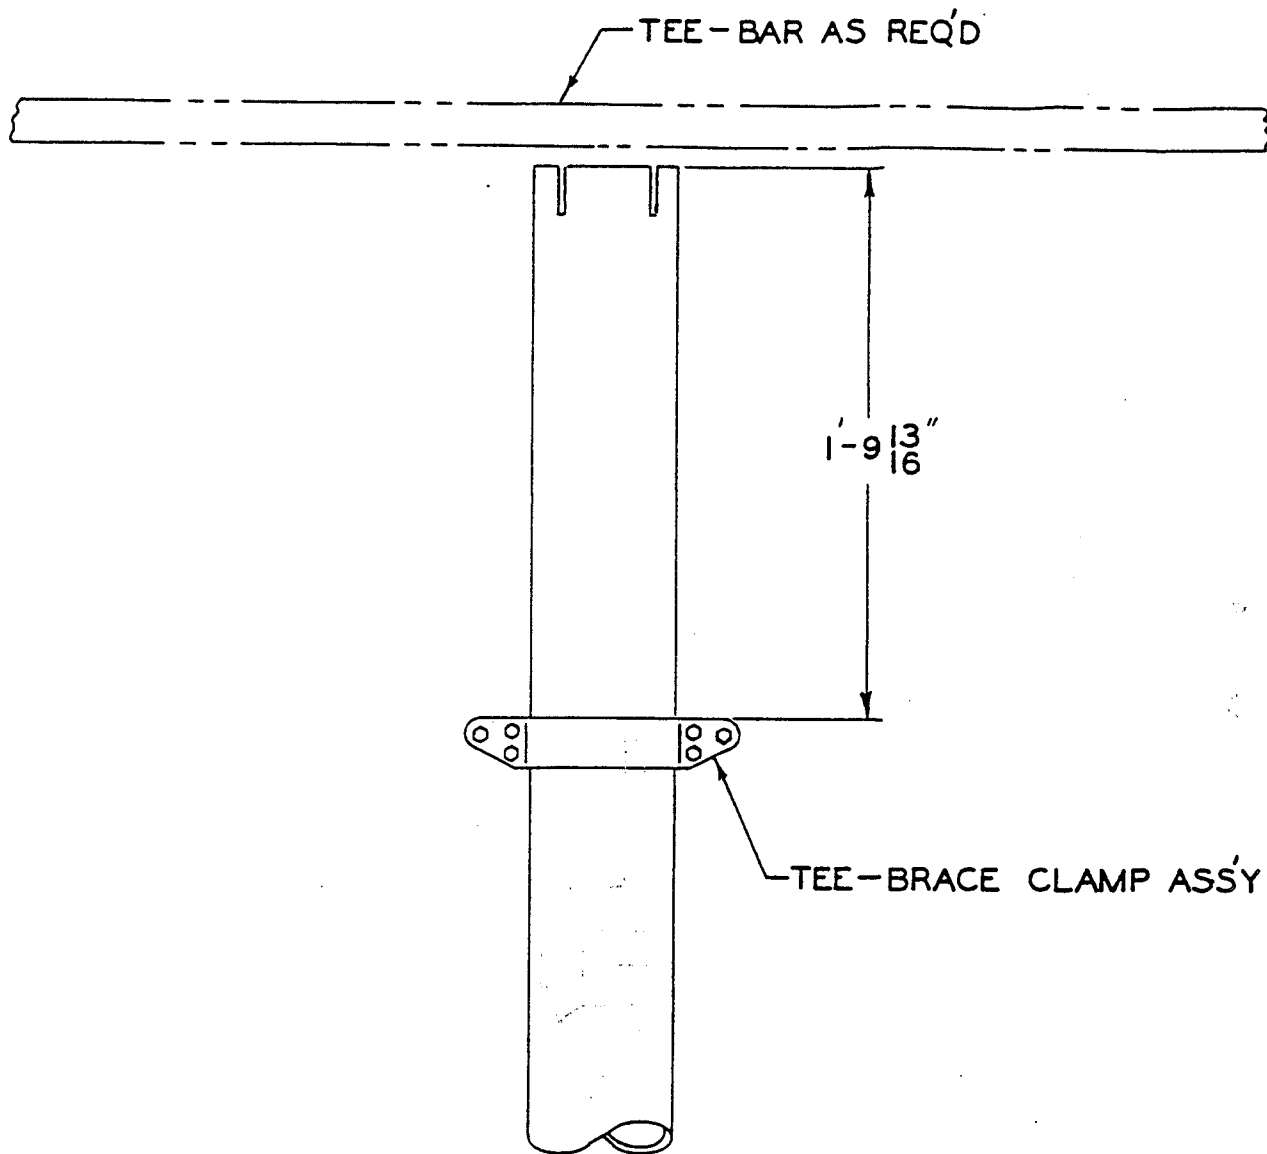

FIG. 9-11
- B. Prior to installing mast into the mast lifting frame, attach tee brace clamp assembly to mast (See Fig. 9-11) and attach tube cap assembly to mast. Align tube cap and tee brace Assembly as shown in Fig. 9-8.